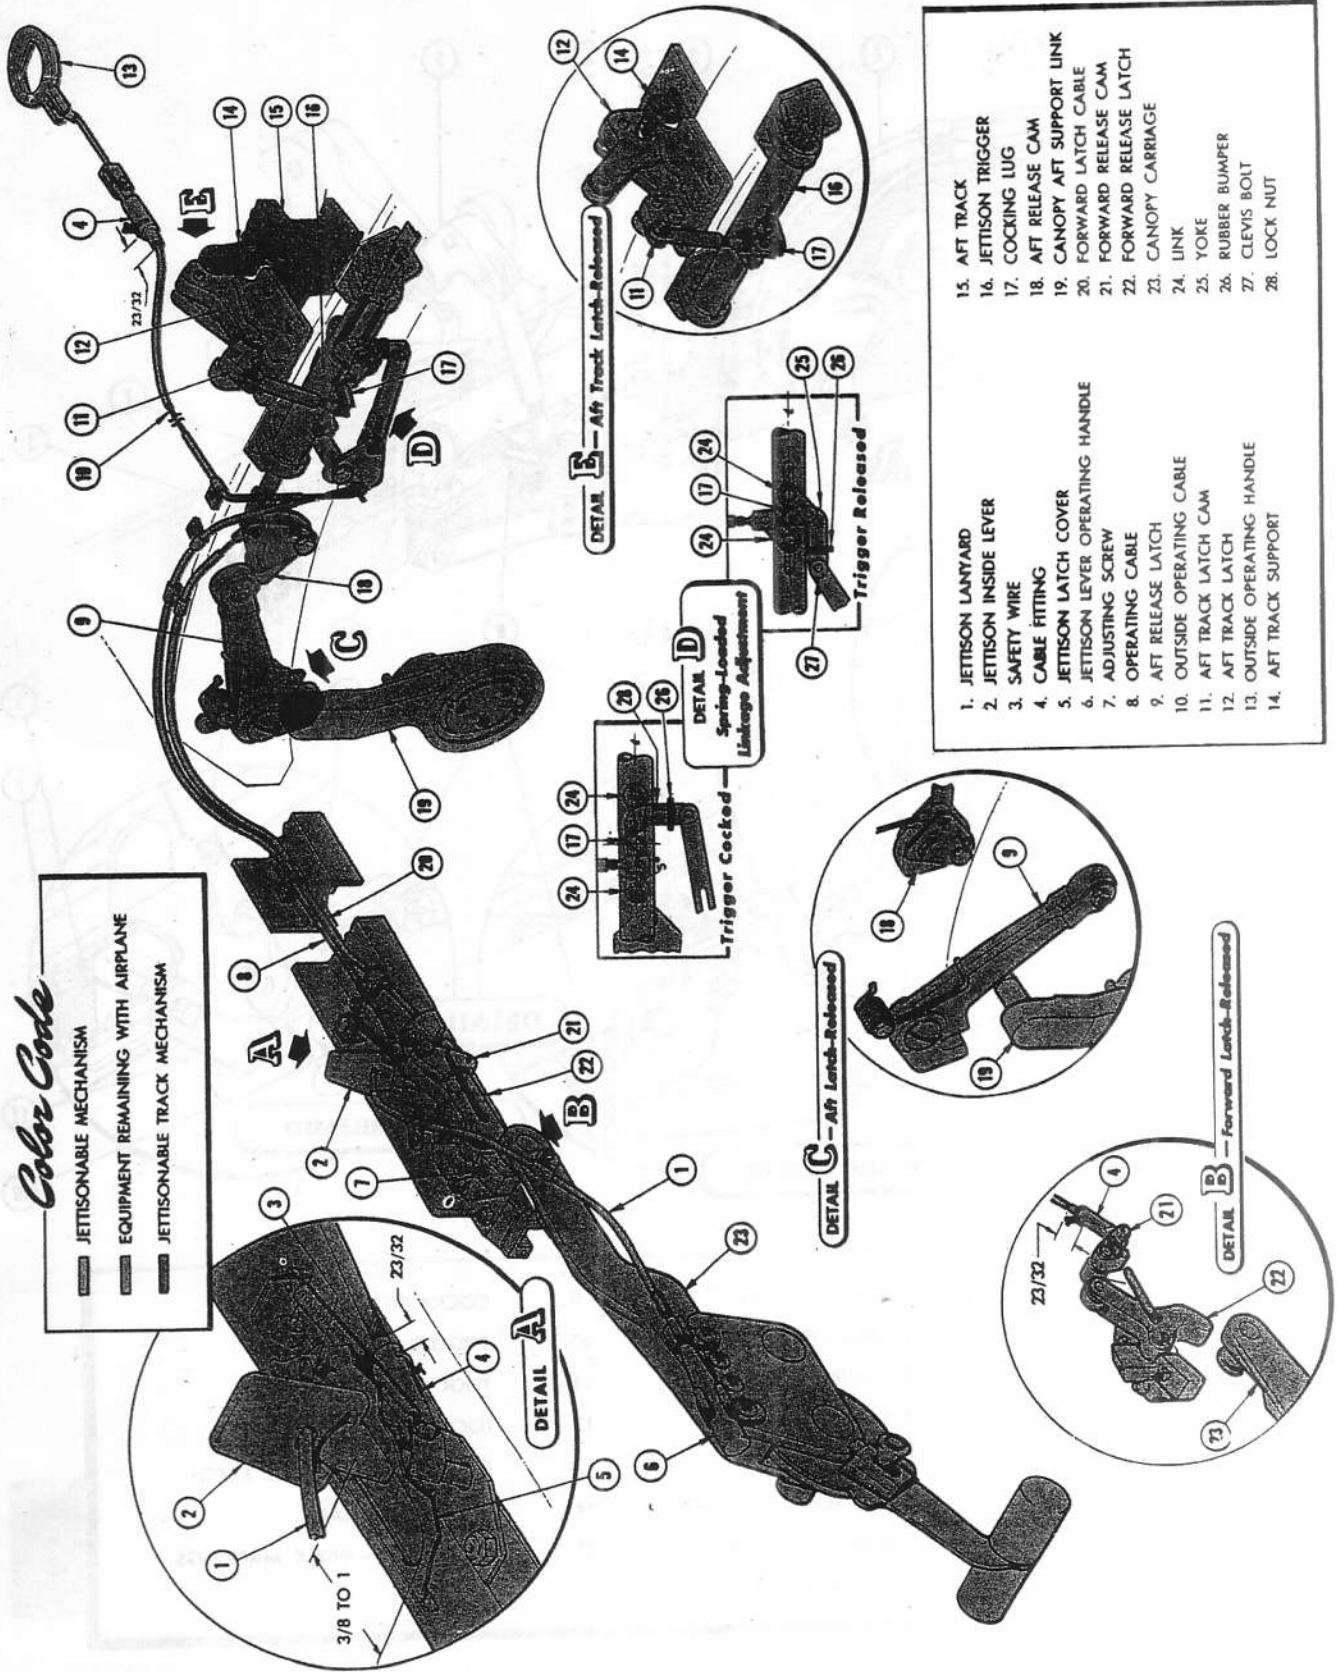

Figure 56 — Canopy Jettison Mechanism
c. Release the forward latches (15, figure 56 by pressing aft on release cams with the fingers. Cam are located under the forward ends of the canopy frame. Aft latches are disengaged when the canopy is raised.
2. INSTALLATION. (See figure 56.)
4. JETTISON OPERATING MECHANISM. (See figure 56.)
b. ADJUSTMENTS. (See figure 56.)
(1) Adjust length of forward latch cables (20) at cable fitting (4, detail B) so that aft release latch is released by cam (18) before forward release latch is released by cam (21). Safety cable fitting by drilling a No. 50 hole through fitting and cable end, .71 ($2\frac{3}{32}$) inch from end, and insert safety wire.
(2) Adjust clevis bolt (27) so that links (24) are approximately 5 degrees past dead-center position. End of the clevis bolt rests on bottom of jettison trigger cartridge. Turn bolt clockwise to increase the amount of link travel past dead center. (See detail D.)
(3) Adjust length of outside operating cable (10) at aft cable fitting (4) so that it has 0.12 ($\frac{1}{8}$) inch slack, and safety as in step (1) preceding.
(4) Adjust length of operating cable (8) so that mechanism trips when dimension between jettison inside lever (2) and forward end of cover slot is between $\frac{3}{8}$ and 1.0 inch, measured in the plane of the cover. (See detail A.) This adjustment is made by turning forward cable fitting (4) to shorten or lengthen the cable. Safety jettison lever as shown in detail A, and safety the cable as in step (1) preceding.
(See figures 56 and 57.)
Operational check for outside emergency jettisoning is not required, but inspection of outside operating cable (10, figure 56) must be made while the inside mechanism is released. Inspect cable for freedom of movement in guide tube by pulling aft end of cable.
(2) Place aft track in position under canopy diaphragm.
(3) Insert a screw driver (type used for recessed-head screws, $\frac{1}{4}$ -inch shank) or equivalent tool in cocking lug (17, figure 56) of the jettison trigger mechanism. Cock the mechanism by rotating the lug approximately 90 degrees or until the mechanism has passed over-center position against the stops. While cocking, hold the aft-track latch in the engaged position.
(4) Reset release latches by hand to their cocked positions. If the canopy is off the airplane, leave the forward release latches disengaged, as they must be reset when the canopy is being installed. (See paragraph 2 preceding.)